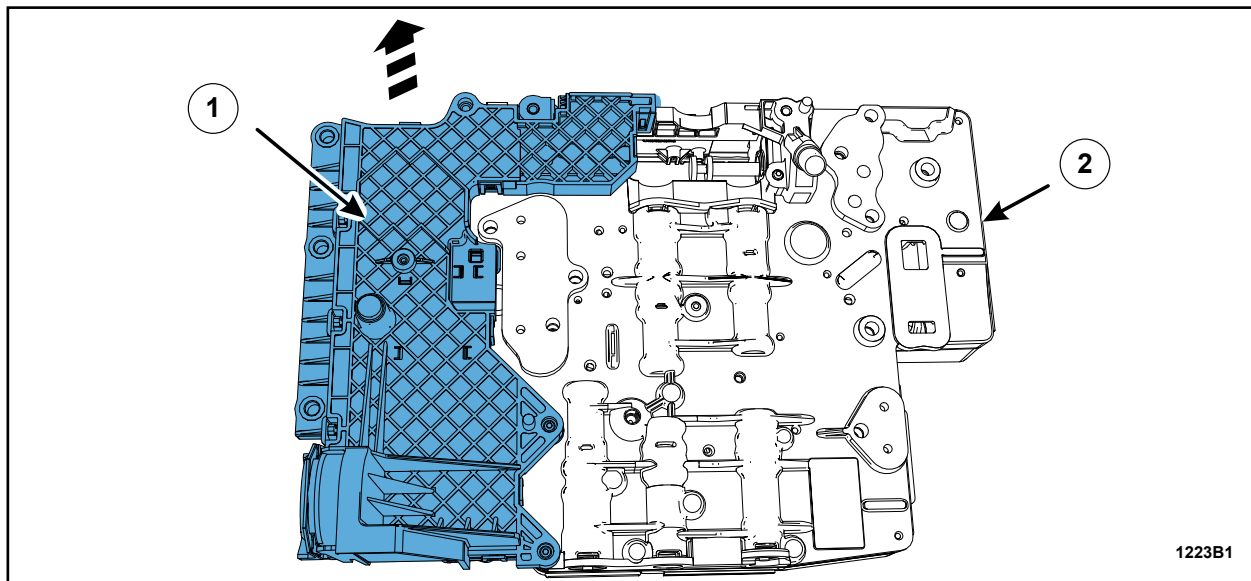

FIGURE 2
6. Carefully separate the molded leadframe (1) from the main control assembly (2). See Figure 2.